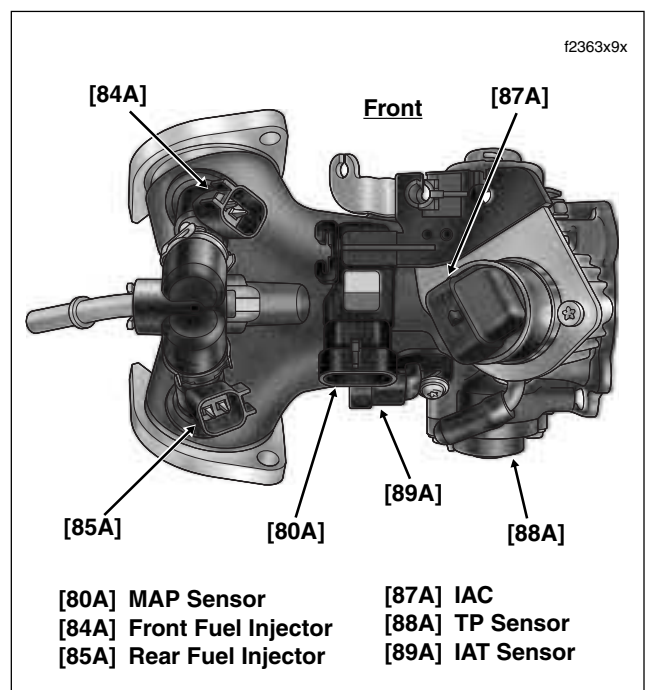

Figure 8-163. Induction Module Assembly (Top View)
- Remove IAC connector [87] and MAP sensor connector [80]. See Figure 8-163.